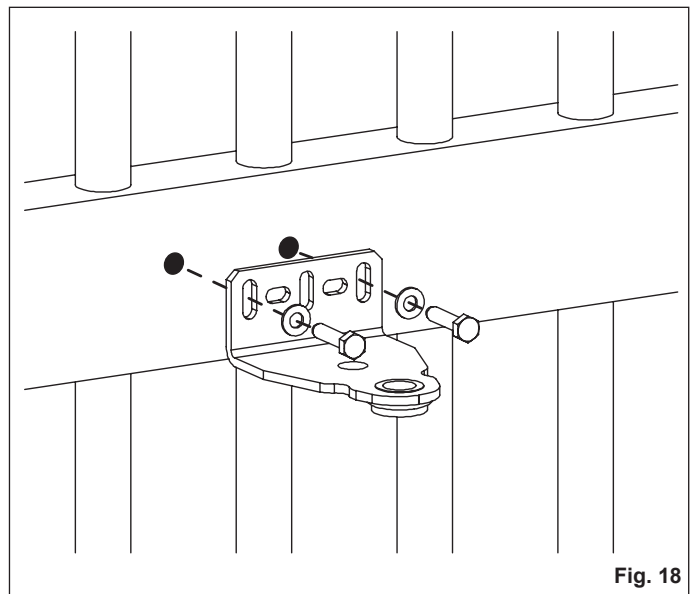

Fig. 18
12. Permanently secure the front bracket, using a suitable securing system as indicated in Figure 18.